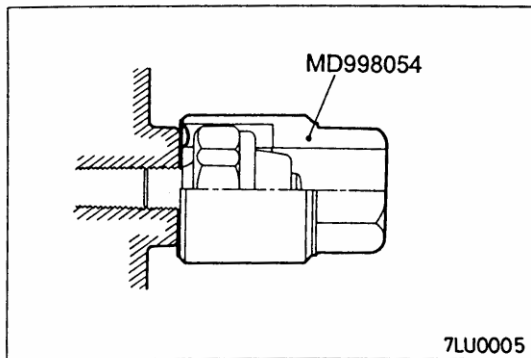

Fig.4-63
- b Using the special tool, remove the oil pressure switch, see Fig.4-63.